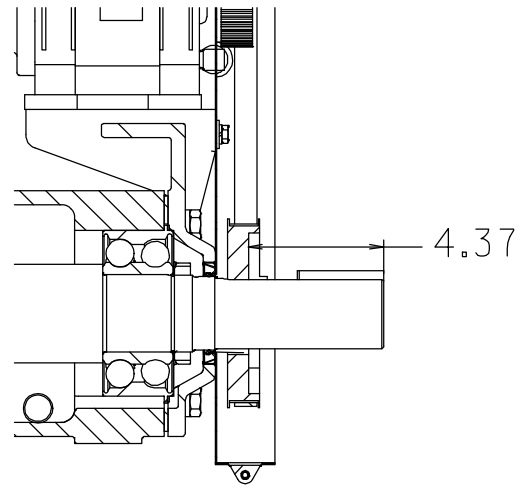

Figure 6. Drive Sprocket Positioning
Install the key (30) in the shaft keyway, making sure to leave room in the keyway for the drive key (26, Figure 2). Install the bushing (29) and sprocket (28) on the shaft to the dimension shown in Figure 6.